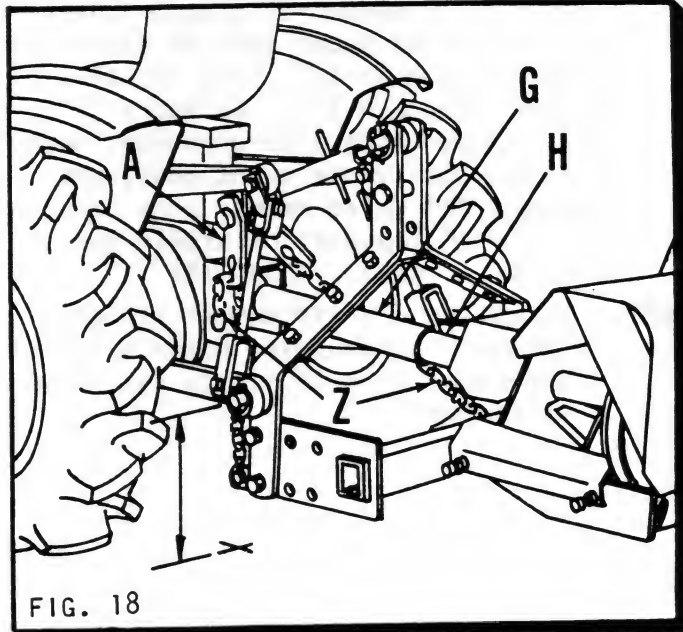

FIG. 18
1. Hook down stop chains (Z) into chain anchor straps (A) at about fourth or fifth link. Lower mower until it is hanging on chains (Z) then check height from ground to hitch pins where tractor three point lift arms attach to the mower three point mast. This height should measure 9" for category "0" three point hitch or 12" for category "1" three point hitch. (Fig. 18)
2. If measured height is not correct then raise mower and adjust chain links through slots of chain anchor straps (A). Lower mower onto chains and measure again, repeating raise, adjust, lower and measure as required to attain correct height.
1. Slide half of PTO drive shaft (G) found in Drive Kit into half of PTO drive shaft (H) attached to front of sickle mower. (Fig. 18)